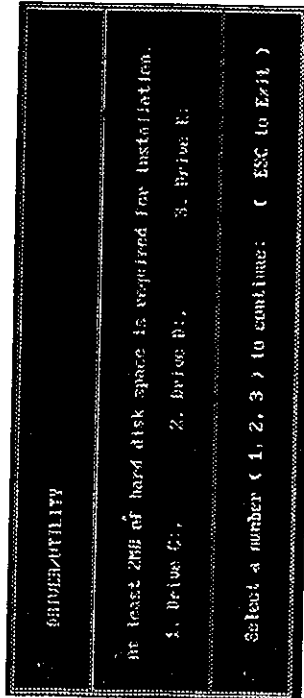

Figure 3-25.
- ☒ 3. A numbered list of available destination drives will be displayed on the screen. SELECT the destination drive by TYPING in the corresponding number; e.g., to select drive C, type in "1" (see Figure 3-25).